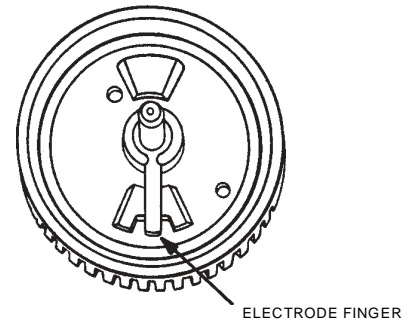

Figure 3.3.8A
2. Inspect the electrode finger for looseness. The electrode should be held securely to the shaft when tested with light finger pressure. Loose condition requires block and gear replacement. (See Figure 3.3.8A.)